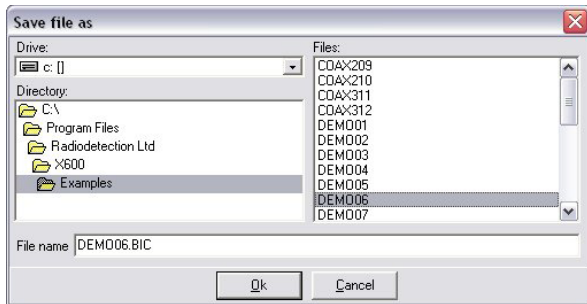

Figure 10
If **No comments** is selected, the screen will display as in Figure 10.
Having entered relevant information and selected **Ok** the message '**Save File as**' will appear as before to enable a filename to be assigned. **Cancel** will cancel comments entry and again put you into Save File as (Figure 10).
**No further comments** will take you to **Save File as** (Figure 10).